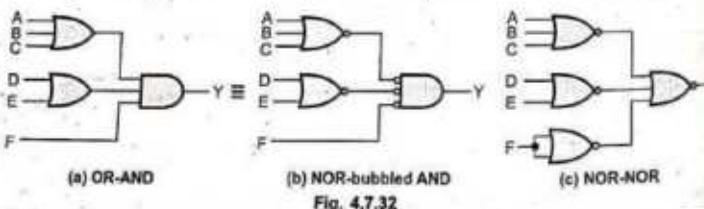

Fig. 4.7.32
- This Boolean function can be implemented using OR-AND logic, as shown in the Fig. 4.7.32 (a).
- Fig. 4.7.32 (b) shows the OR gates are replaced by NOR gates and the AND gate is replaced by a bubbled AND gate. The implementation shown in Fig. 4.7.32 (b)
is equivalent to implementation shown in Fig. 4.7.32 (a), because two bubbles on the same line represent double inversion (complementation) which is equivalent to having no bubble on the line.
- In Fig. 4.7.32 (c), the output NOR gate is redrawn with the conventional symbol replaced by NOR gate with F input to its both inputs. Thus all the three implementations of Boolean function are equivalent.